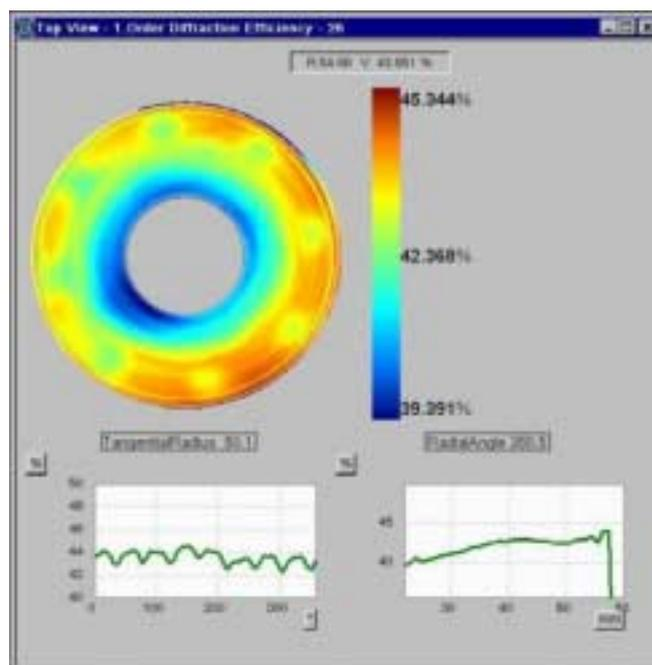

Fig 3: First Order Diffraction
**First order diffraction** is a quantitative measure of pit replication, which in turn depends strongly on moulding parameters: in particular, melt temperature, injection speed and temperature distribution in the mould. In Fig 3 we can see three different contributions to pit replication. Firstly, an increase of diffraction intensity from inner to outer diameter, caused by the variation of injection speed with radius. Secondly, there is a gradient from left to right which indicates a corresponding temperature gradient in the mould. Finally we can see eight-fold symmetry of cold spots at the outer diameter that are caused by the temperature and flow distribution in the nozzle.